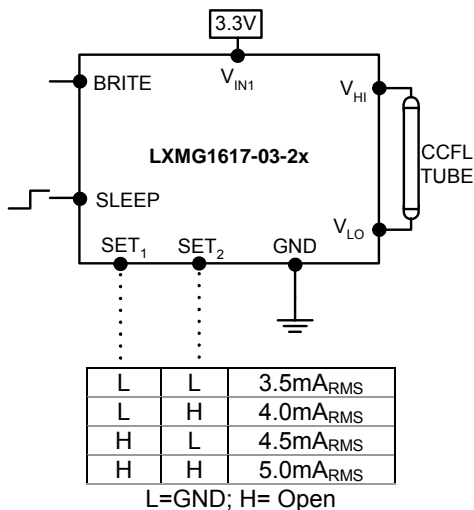

Figure 2 – Max Output Current
- Use the SET₁ and SET₂ (see Figure 2) inputs to select the desired maximum output current. Using these two pins in combination allows the inverter to match a wide variety of panels from different manufacturers. Generally the best lamp lifetime correlates with driving the CCFL at the manufacturers nominal current setting. However the SET₁ and SET₂ inputs allow the user the flexibility to adjust the current to the maximum allowable output current to increase panel brightness at the expense of some reduced lamp life.